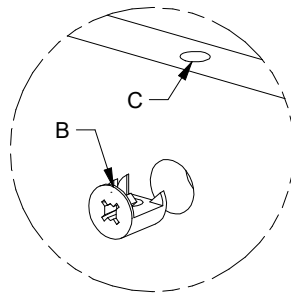

Figure 2
2. **Cams:** (Figure 2) Make sure the hex drive on the cam faces up, then push the cam down into large hole. If necessary, tap it in gently until it is even with the surface of the board. Turn the cam until the arrow (B) points at the hole (C) on the adjacent edge.